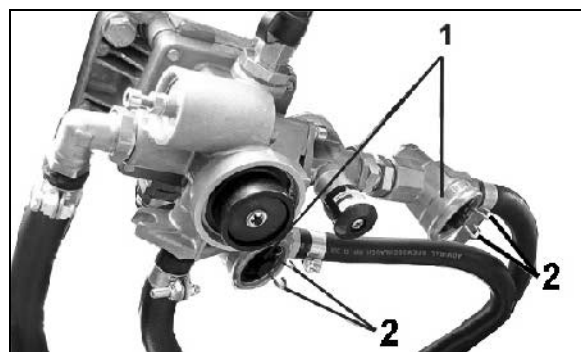

Fig. 73
Clean the two line filters (Fig. 73/1) every 3 months (more frequently in harsh operating conditions). Proceed as follows to do so:
- (1) Press the two lugs (Fig. 73/2) together and remove the locking piece with the O-ring, pressure spring, and filter insert.
- (2) Clean (rinse out) the filter insert with petrol or thinner and then dry it with compressed air.